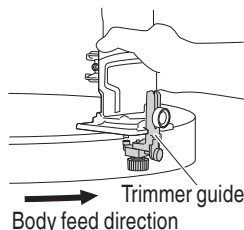

Fig. 19
- (4) As shown in Fig. 19, securely attach the bottom of the base ass'y to processed surface of the materials. Feed the trimmer with the guide pin alongside the material.